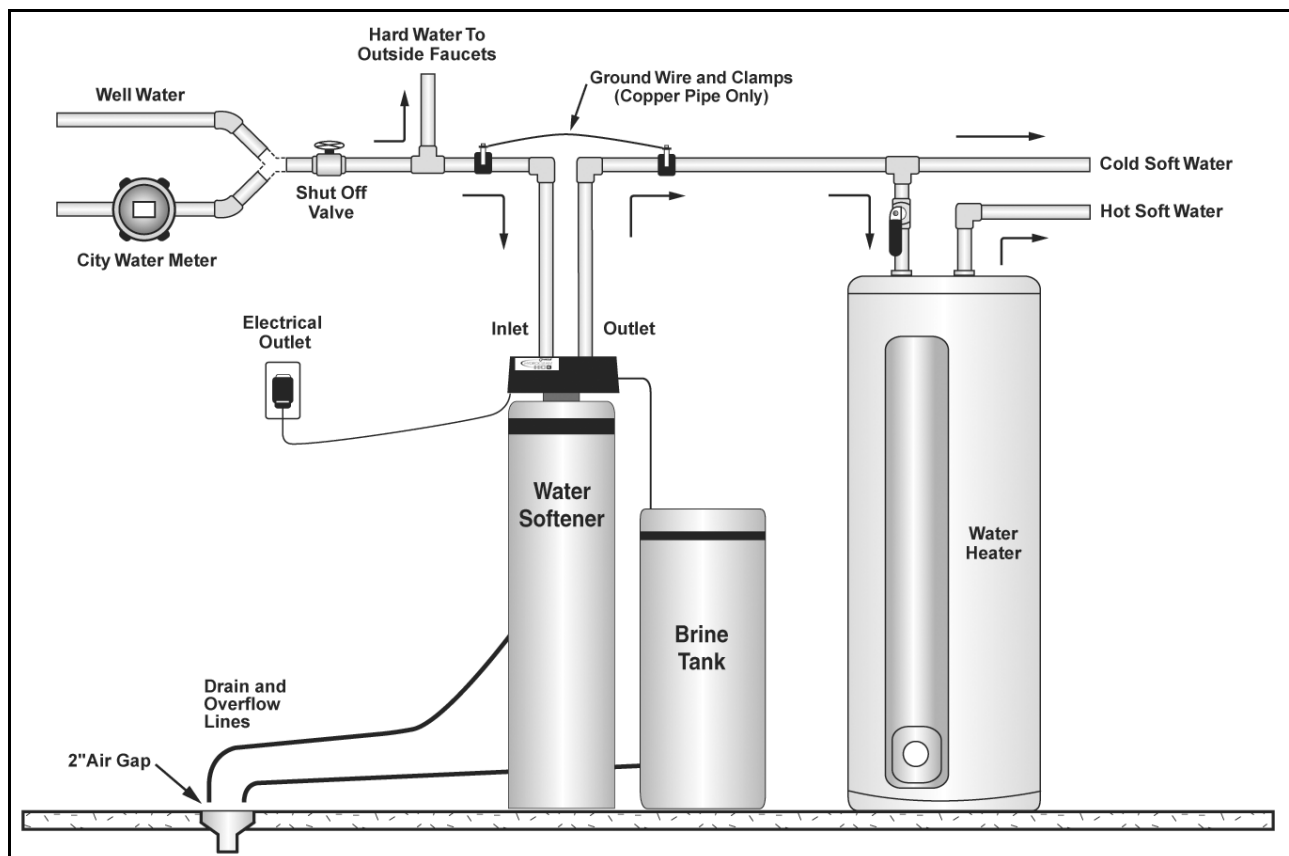

Figure 3: Appliance Placement
- F. Place the appliance in the desired location using Figure 3 as a guide.